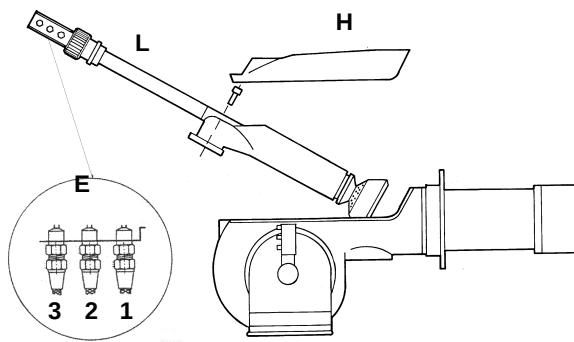

Fig. 22
- Remove, clean and check the combustion head (see Fig. 22).
- 3 unscrew the revolving connectors (**E** in Fig. 22) on the fuel pipes (use 2 spanners to avoid loosening the connections attached to the distributor block) loosen the screw **VRT** to free the threaded rod **AR**, then screw out the 2 screws **V** holding the washer **R** and the screw **VRT** in position
- 4 remove the whole assembly as shown in Fig. 22